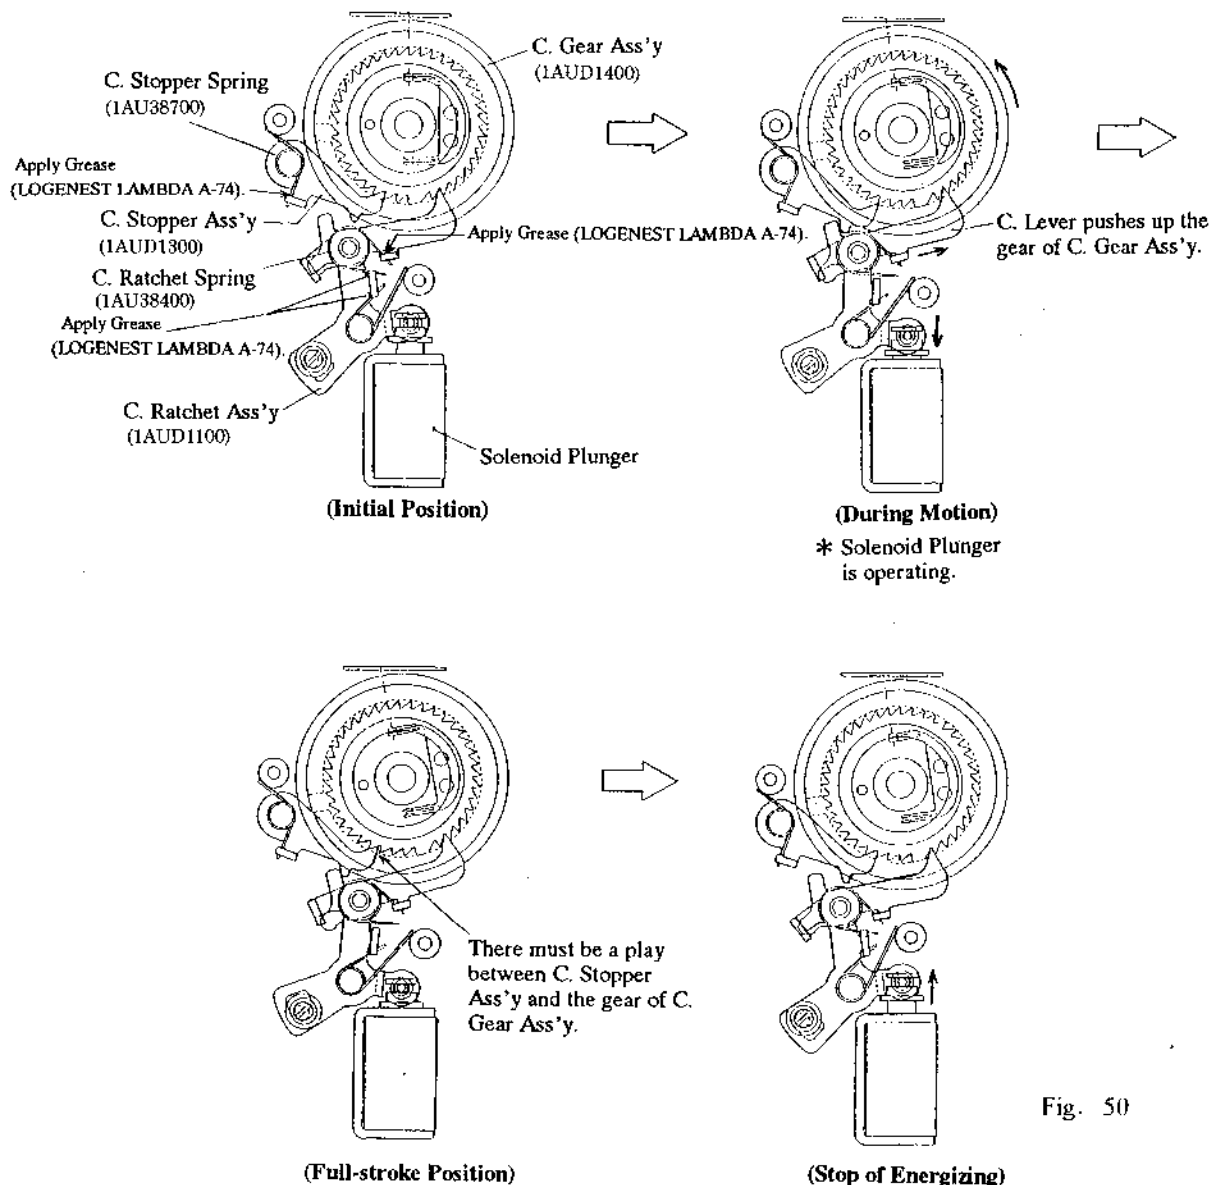

Fig. 50
- 8) As shown in Fig. 50, apply Grease (LOGENEST LAMBDA A-74) to the C. Stopper Spring (1AU38700) and C. Ratchet Spring (1AU38400).